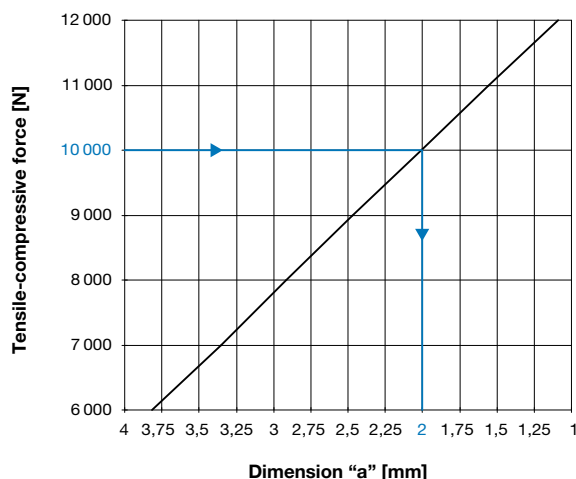

Fig. 2 (This Adjustment Diagram for Size 4, Type 3_ _6_0 only serves as an example!)
After having released the set screws (1), the adjusting nut (2) is set to Dimension "a" as shown in the Adjustment Diagram (see Fig. 2) using a face wrench. By turning the adjusting nut clockwise, the release force is increased. Turning the adjusting nut counter-clockwise leads to a decrease in release force (viewing direction: facing the front of the adjusting nut (2)). Afterwards, the adjusting nut (2) must be secured again using the set screws (1).
$a = 2\text{ mm}$ (Fig. 2)